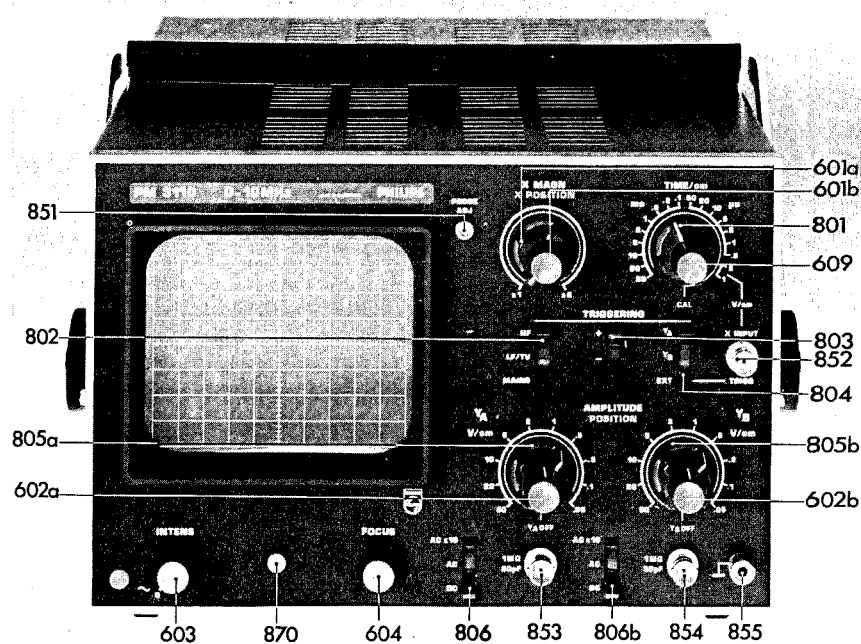

Fig. 4. Controls and sockets
2.2. CONTROLS AND SOCKETS (Fig. 4)